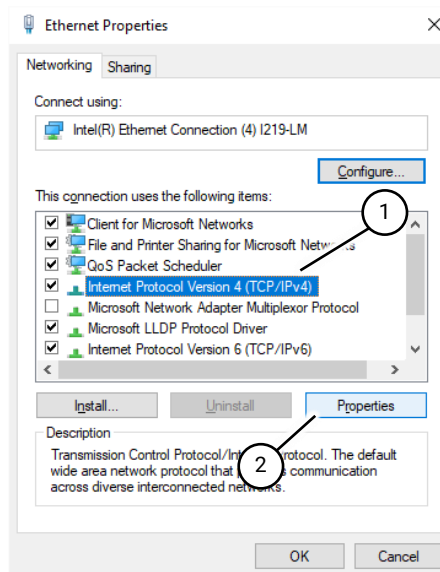

Fig 42 Network adapter properties
4. Select 'Internet Protocol Version 4 (TCP/IPv4)' (Fig 42 (1)) and then select 'Properties' (Fig 42 (2)).